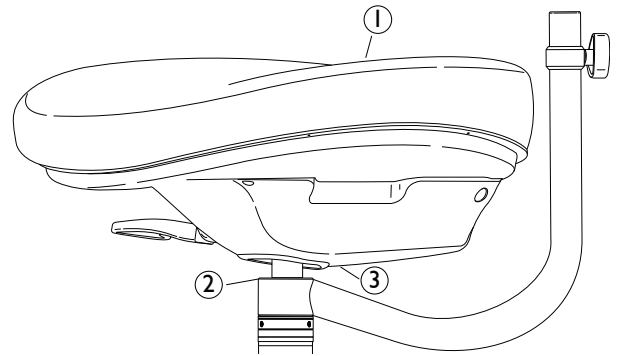

Figure 10: Installing Seat Cushion Assembly - SA5550 and SA555 I
8 Install the Seat Cushion Assembly (Figure 10, item 1).
NOTE: Ensure that there is a gap between the top of the Support Pole Hub (Figure 10, item 2) and the Seat Mechanism (Figure 10, item 3).